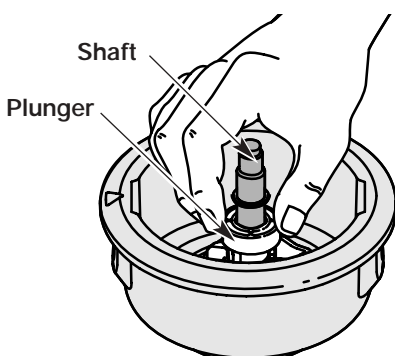

Fig. 51
5. Clean the shaft and the inner surface of the outer spool. To clean the shaft underneath the plunger, press down on the plunger (Fig. 51). Remove any dirt or debris from the shaft.